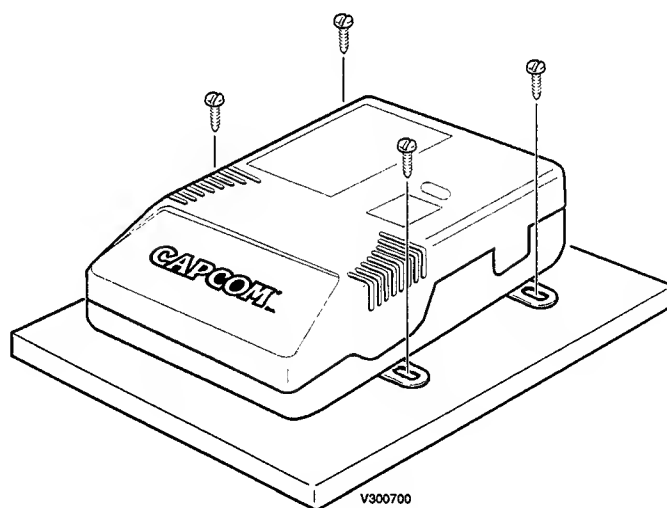

Figure 8: Case Mounting
22. Using the supplied wood screws, fasten the game cartridge case to the control panel shelf, as shown in Figure 8.